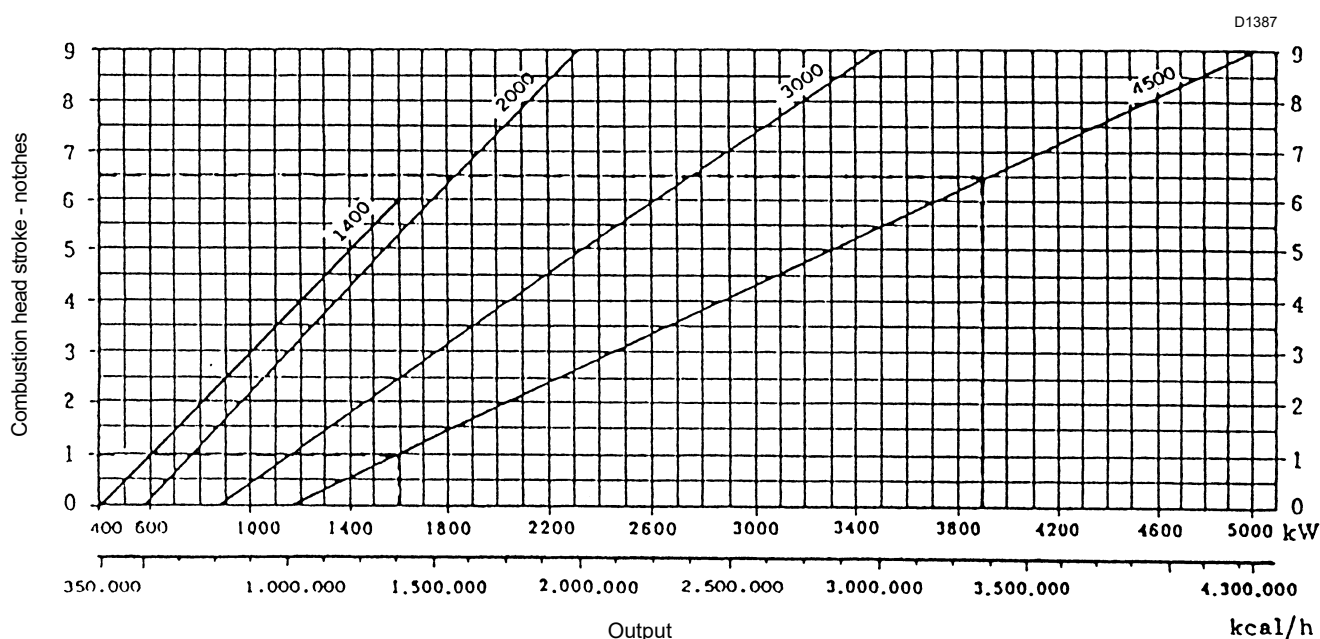

Fig. 17
To obtain a different modulation range, calibrate these levers again so that the stroke of the head is as in the diagram (Fig. 17).
- If difficulties persist, set the combustion head to the minimum on notch 2 ÷ 3, keeping the adjustment of the maximum delivery as in the diagram (Fig. 17).